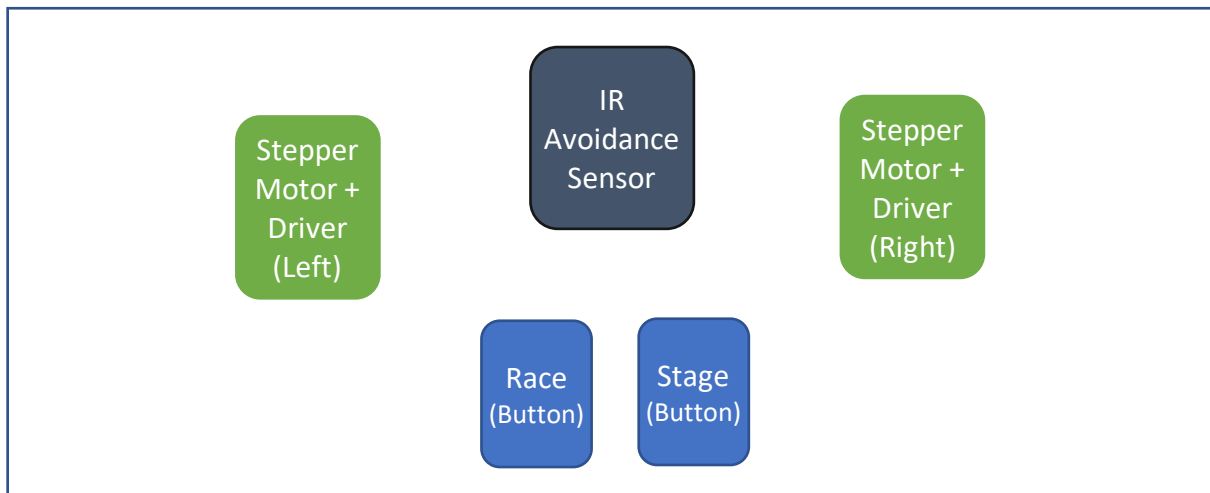

Figure 3 System diagram 2 showing car inputs and outputs.
2. We will also build a car that will stage itself (drive to starting line), race (drive straight down the drag strip), and stop before hitting any obstacles. The car will have 2 buttons to choose which program to run, either stage or race. See Figure 3.